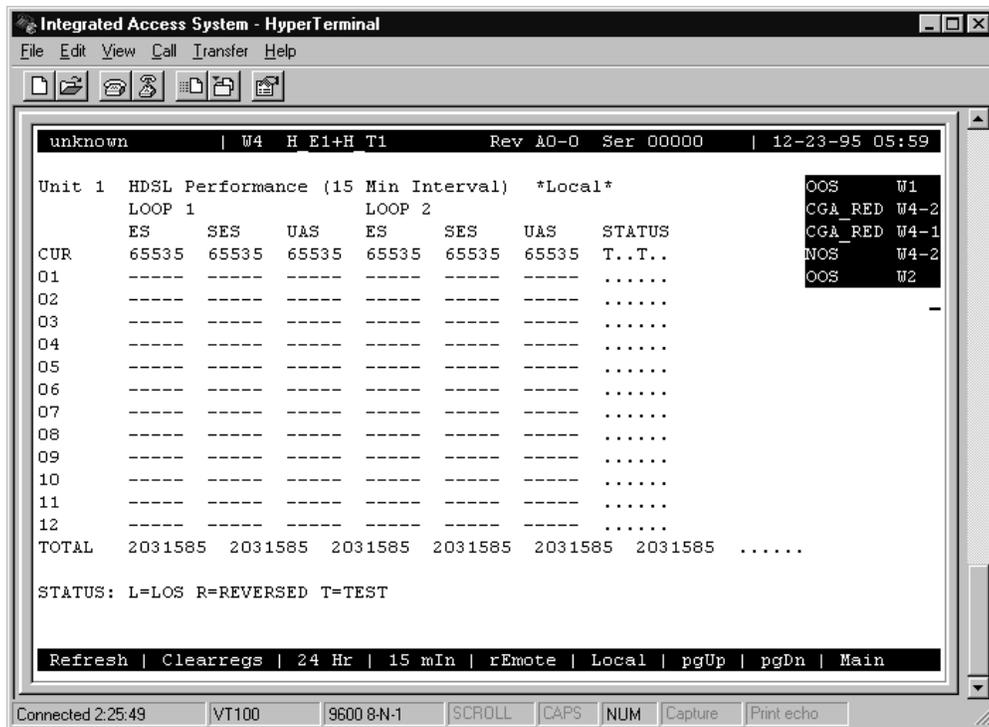

Figure 7-33. Typical Adtran E1/HDSL Performance Data Screen (local 15-minute interval)
Figure 7-33 shows the Adtran E1/HDSL Performance Data Screen for the WAN-U card. The screen will display statistics for either Unit 1 (HDSL module 1) or Unit 2 (HDSL module 2), depending on which one you choose in the HDSL Screen.
Figure 7-33 shows the number of Errored Seconds (ES), Severely Errored Seconds (SES), and Unavailable Seconds (UAS) in loops 1 and 2 (local or remote), in either 15-minute or 24-hour increments. This allows for four different possible displays:
In 15-minute intervals, 12 historical time periods are shown on the left side of the screen (Figure 7-33). By pressing “**d**” (**pgDn**) in that screen, you can view historical time periods 13 through 24. Press “**d**” again to display historical time periods 25 through 32. These periods record the activity for the past thirty-two 15-minute periods, thus providing eight hours of historical data.